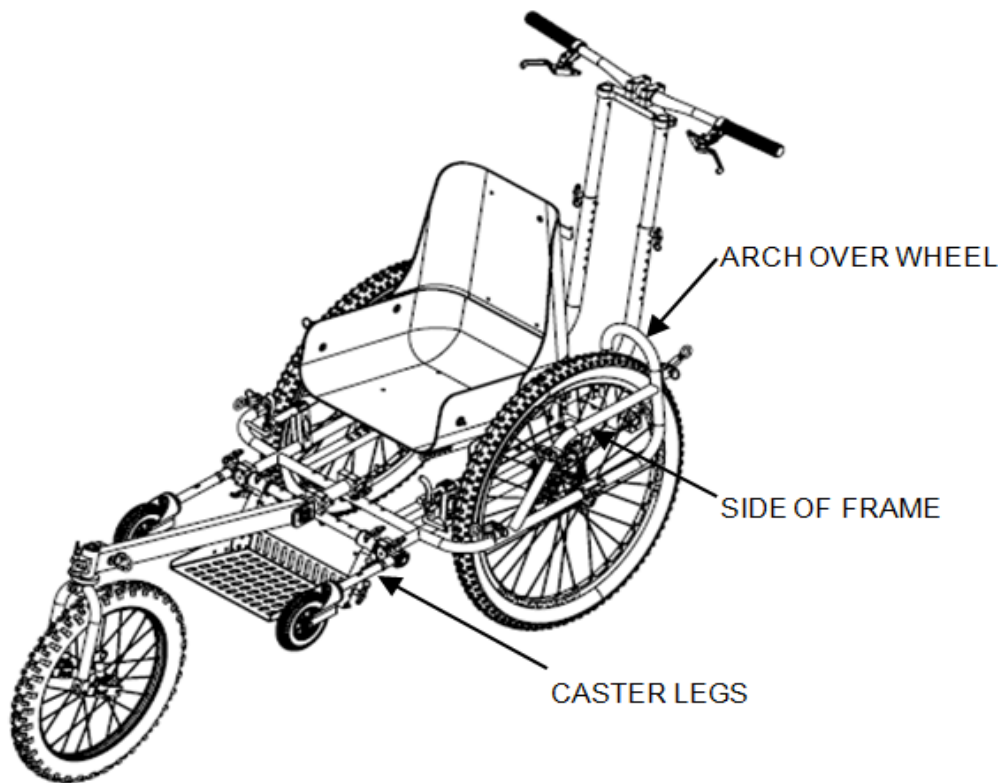

Figure 14. Handles for lifting the AdvenChair.
4. Lifting handles for Side Mules: Side mules can lift the AdvenChair by the caster legs, the frame next to the main wheels, or the frame where it loops over the main wheels (Figure 14). The forward beam should not be used for lifting the AdvenChair but can be used to tilt the chair back on its main wheels (a wheelie).